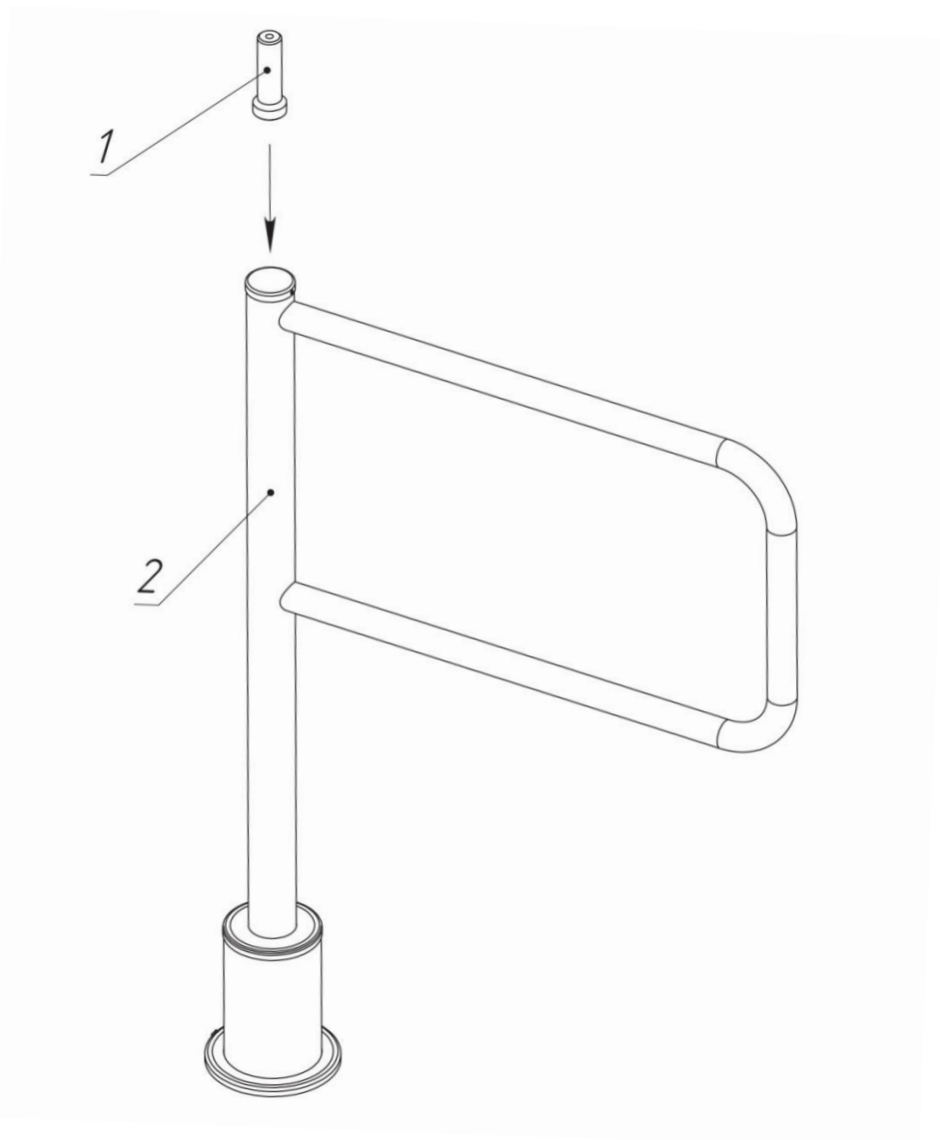

Fig. 4 Unlocking the gate
In order to unlock the gate put the magnetic key (1, Fig. 4) on the top of the stand (2, Fig. 4) as indicated on the picture and manually rotate the arm in the right (left) direction.